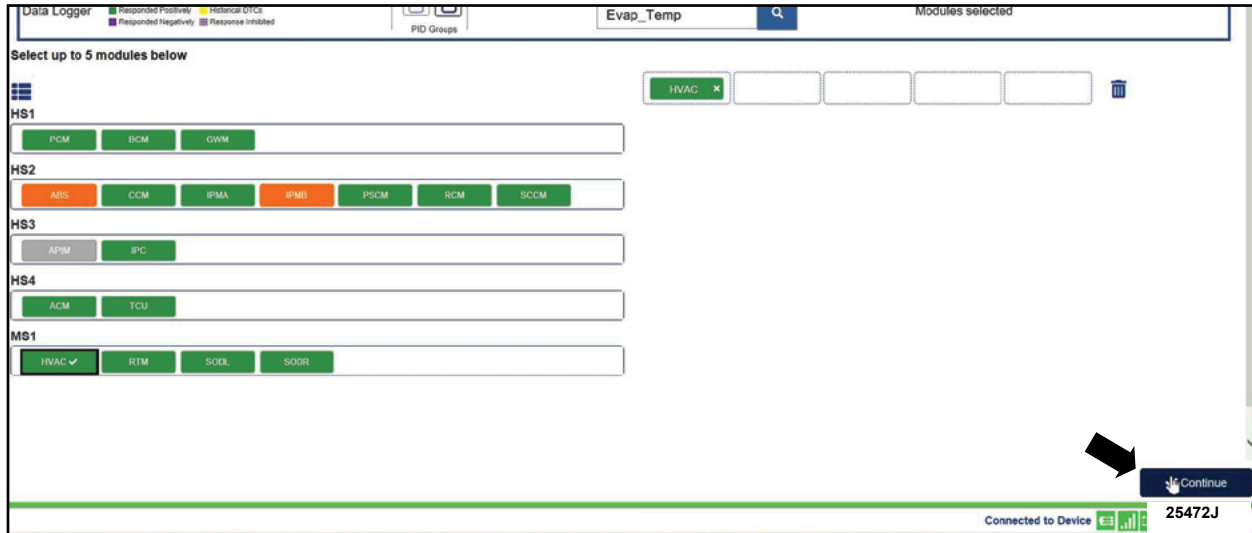

FIGURE 10
19. Select **CONTINUE**. See Figure 10.